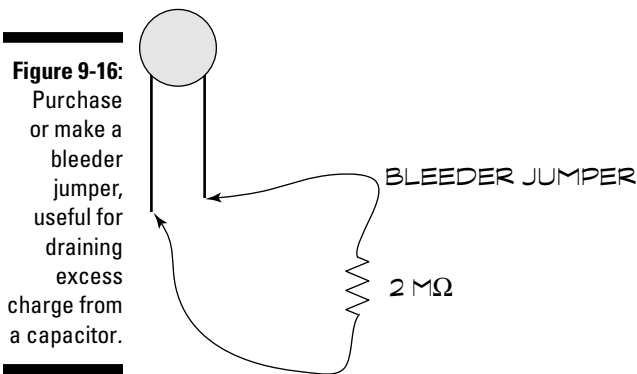

Figure 9-16: Purchase or make a bleeder jumper, useful for draining excess charge from a capacitor.
1. **Before testing, use an insulated bleeder jumper (see Figure 9-16) to short out the terminals of the capacitor. You can make this jumper yourself. A bleeder jumper is simply a wire with a 1 or 2 megohm resistor attached. The resistor prevents the capacitor from being shorted out, which makes it unusable.**